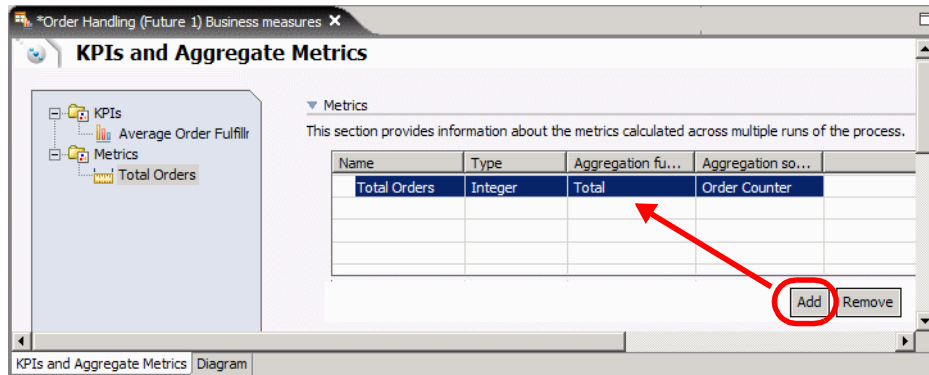

Figure 8-19 Aggregate Metric: Total Orders
- ▶ A new row is added in the table. Use the following attributes (Figure 8-19):